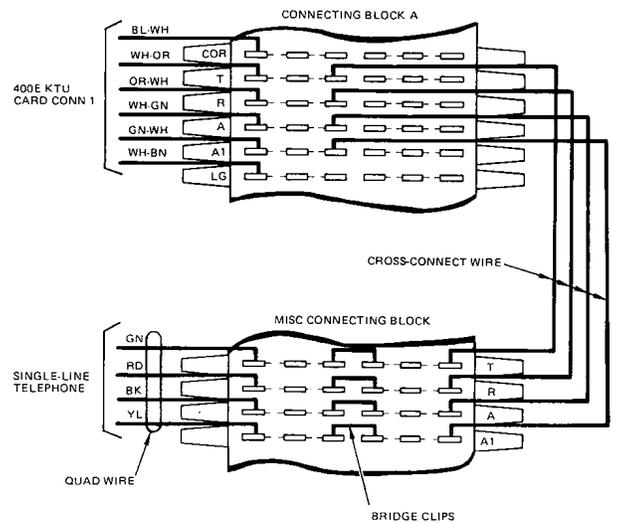

Figure 8: Connecting Details, Line KTU to Single-Line Station
**3.16** For a single-line telephone used as a line answering station, cross-connect the T, R, A, and A1 terminals on connecting block A, B, or C to the corresponding terminals on the MISC connecting block. Use bridge clips to complete the connections to the single-line telephone. Refer to Figure 8.